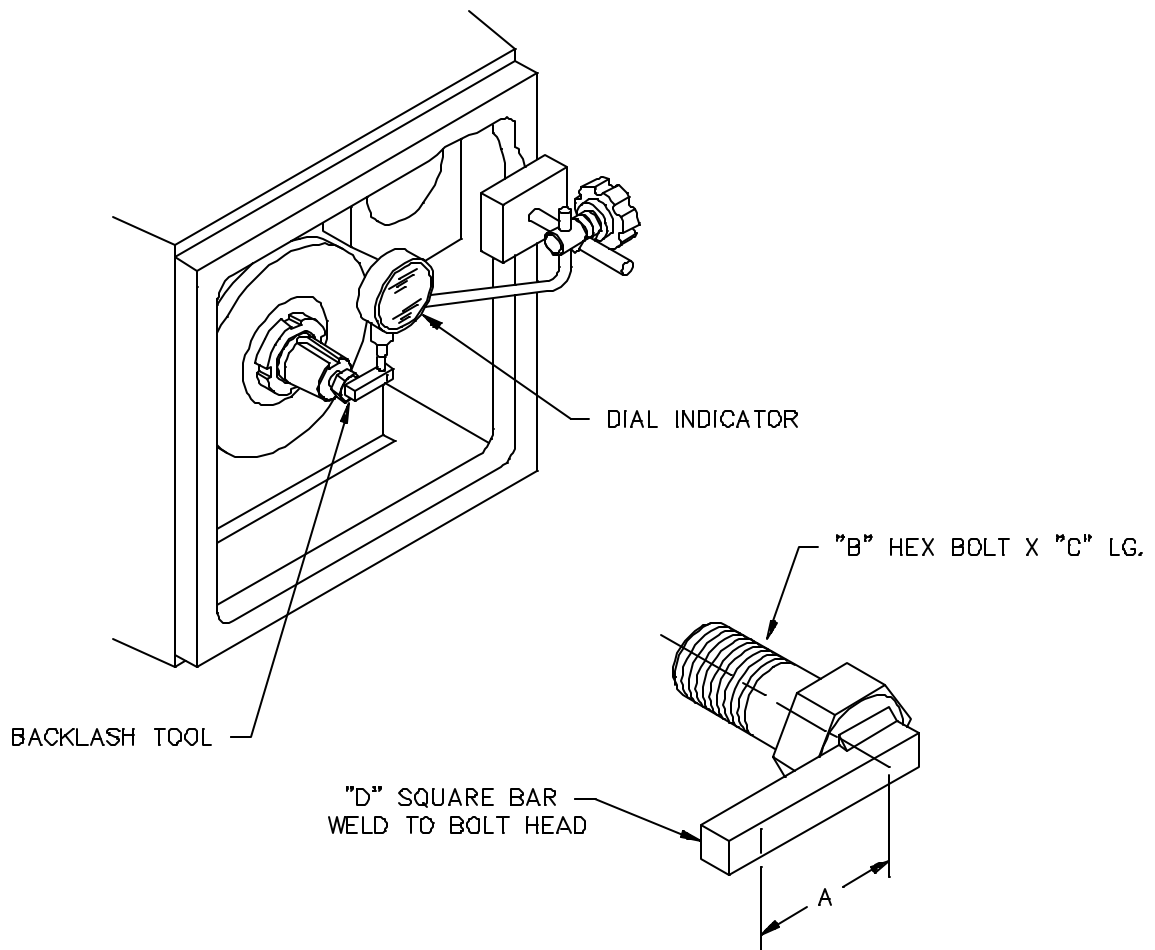

Figure 15: Backlash Setting
13. Install a backlash tool (supplied by others) (*Figure 15, page 21*) in the spiral bevel pinion shaft and measure the backlash by placing a dial indicator against the backlash tool at a right angle to the rotation. Restrain the output shaft from turning and rotate the spiral bevel pinion shaft back and forth to measure the free movement.